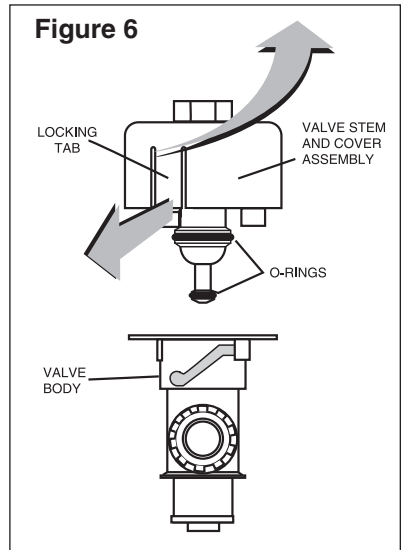

Figure 6
2. With the Air Relief Valve attached to the UV sterilizer, pull out the Locking Tabs on the sides of the valve and remove the Valve Stem and Cover Assembly with a counterclockwise turn and lifting motion (see **Figure 6**).
5. Inspect the valve's two O-rings and ensure they are both free of damage, properly positioned (see **Figure 6**), and lubricated with a silicone-based lubricant.